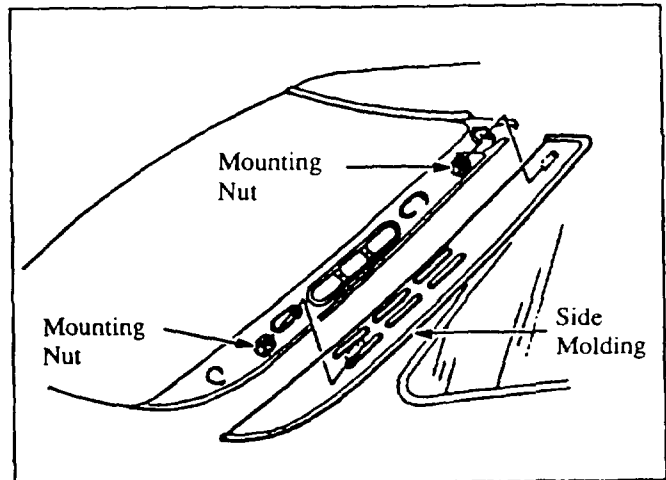

Figure 25: Removing Rear Window Glass Side Molding
4. Check the condition of the rear window sealer in this area. Use a flashlight to find small pinholes. Check extractor side molding mounting hardware for missing or damaged sealer or gaskets. Apply sealer to all mounting points as necessary. **Figure 25.**